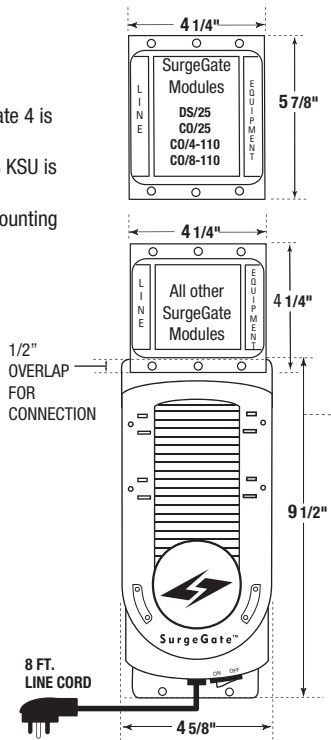

Figure 3
8. Mount protector to a solid surface, like plywood. Drill a 3/32 hole for the #6 x 3/4 screw and eyelets provided. See figure 3 on page 2. Attach screw and eyelet to wall and slide protector over screw and tighten. Add second screw to bottom of protector.
3. Mount protector to a solid surface, like plywood. Drill a 3/32 hole for the #6 x 3/4 screw and eyelets provided. See figure 3 on page 3. Attach screw and eyelet to wall and slide protector over screw and tighten. Add second screw to bottom of protector.